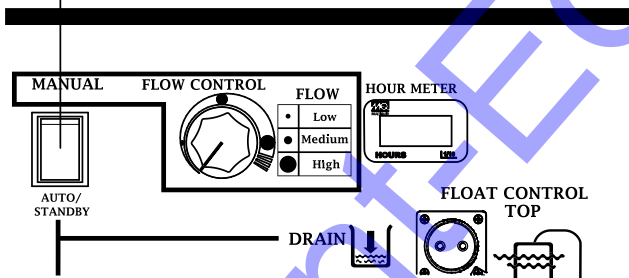

Figure 9. Operation Mode Selection
- Select the mode of operation that you require by setting the Auto/Manual switch to either **AUTO/STANDBY** or **MANUAL** mode (Figure 9).
- Turn the AUTO/MANUAL switch on control panel to the **AUTO/STANDBY** position (Figure 9).